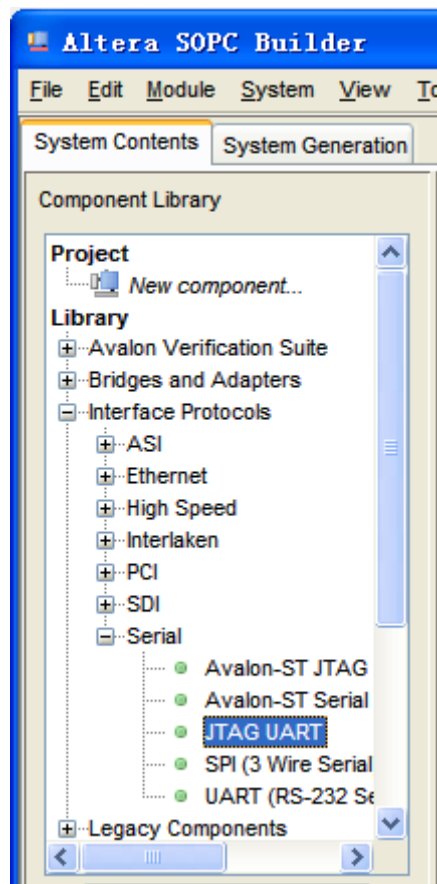
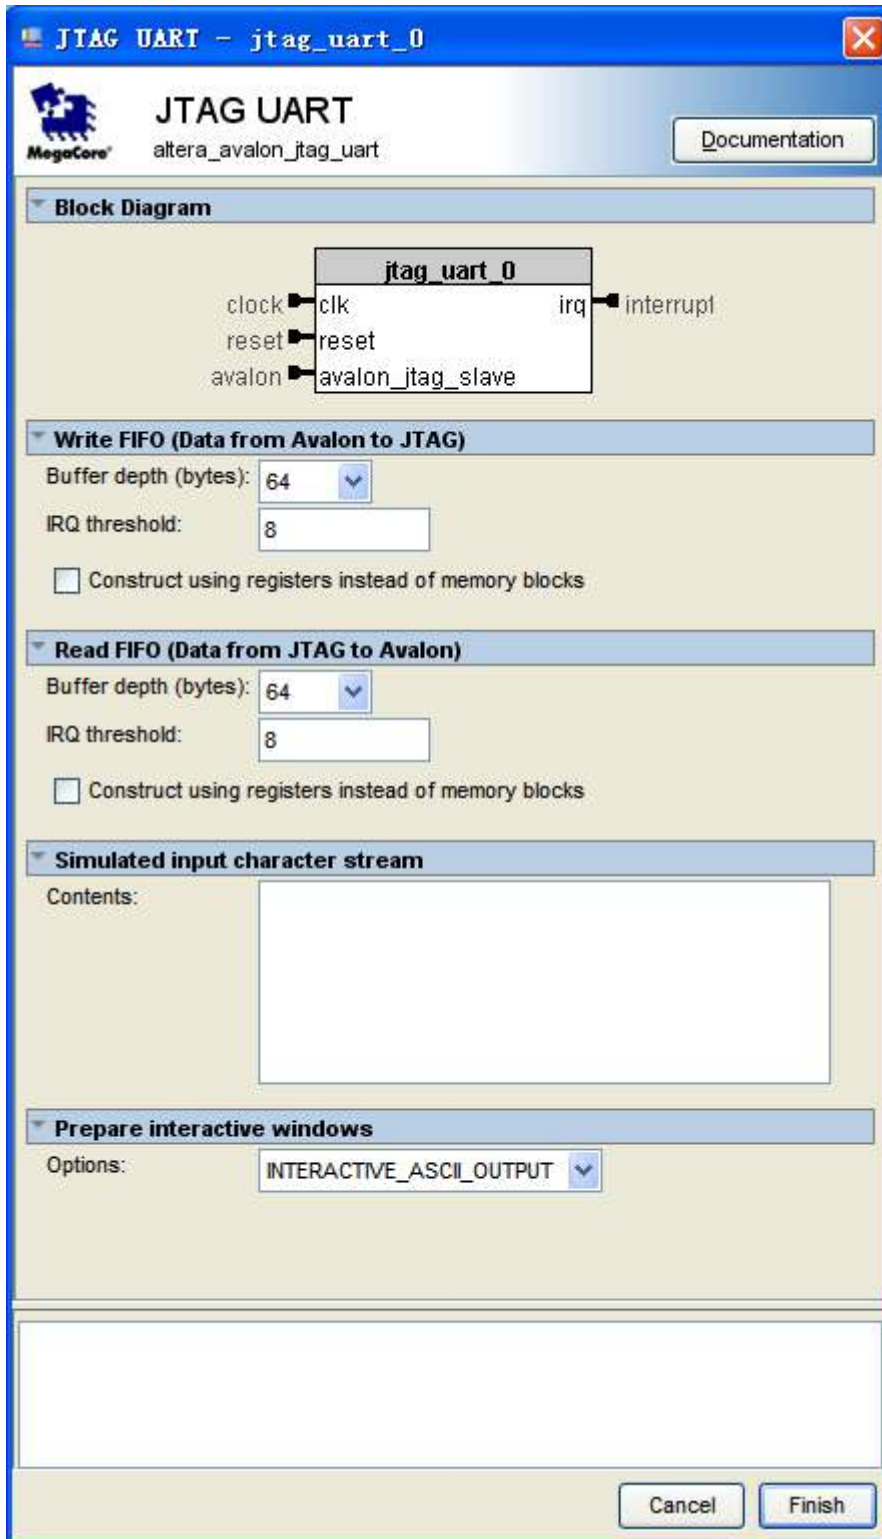

Figure 7-19 Add the JTAG UART component
Figure 7-20 JTAG UART’s add wizard
11. Add a second component by selecting **Library > Interface Protocols > Serial > JTAG UART** and clicking the **Add...** button, as shown in **Figure 7-19** and **Figure 7-20**.